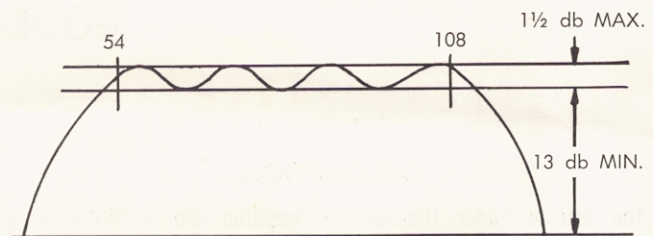

Fig. 2—Typical Low-Band Response
- (1) Set sweepwidth for approximately 44 to 116 mc. Set marks at 54 and 108 mc. Feed signal from sweep via the attenuator to LINE IN (J1) on the SDA-4. Terminate LINE OUT (J2) with TR-72F. Use any one of SDA-4 output jacks (J7, 8, 9, or 10) to feed SDA-4 output via the detector to the scope. Terminate unused output jacks with TR-72F terminating resistors. The observed response should be as shown in Fig. 2.